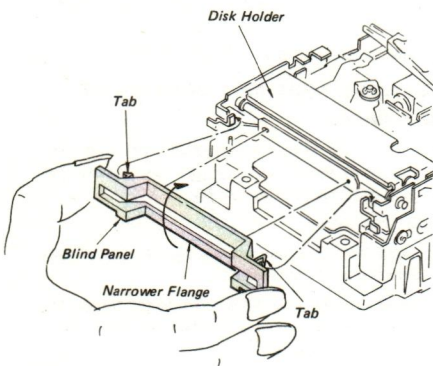

Fig. 4-3 Blind Panel Replacement
- Remove the blind panel by twisting it into the arrow while pressing its both edges. (Refer to Fig. 4-3)
- Press the blind panel toward the cassette-up ass'y and latch the two tabs onto the disk holder. (Refer to Fig. 4-3)